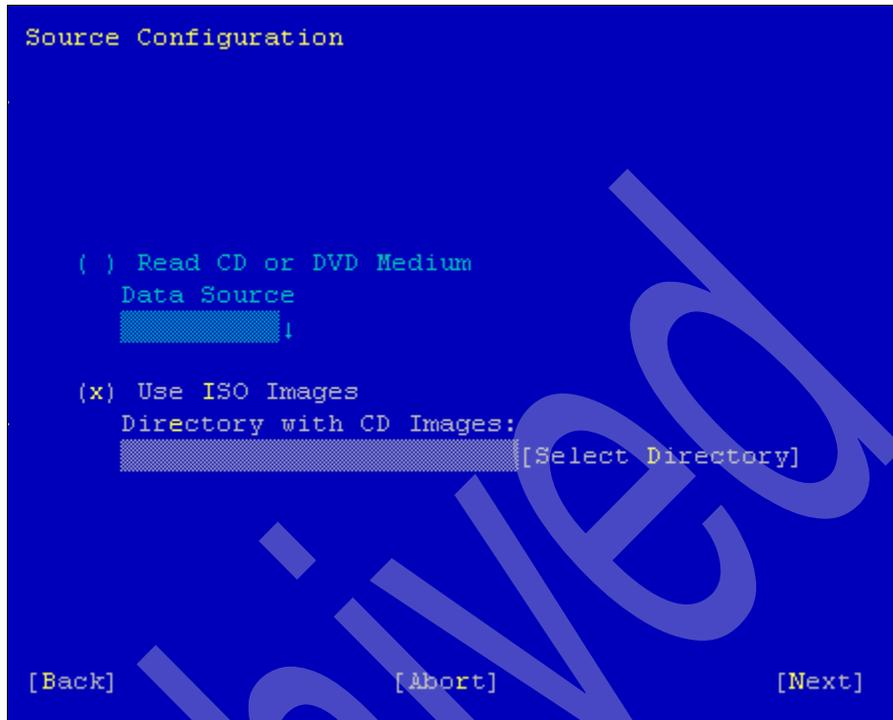

Figure D-3 Source configuration window
9. At the **Source Configuration** window, if you have a DVD of the operating system, click the check box. Otherwise, if you have ISO images of the DVD contents, select the second check box and browse via **Select Directory** to the directory that contains all ISO images of all CDs (see Figure D-3 on page 457).
11. If you chose the Read CD or DVD Medium option given in Figure D-3, you will be prompted to insert the first DVD.